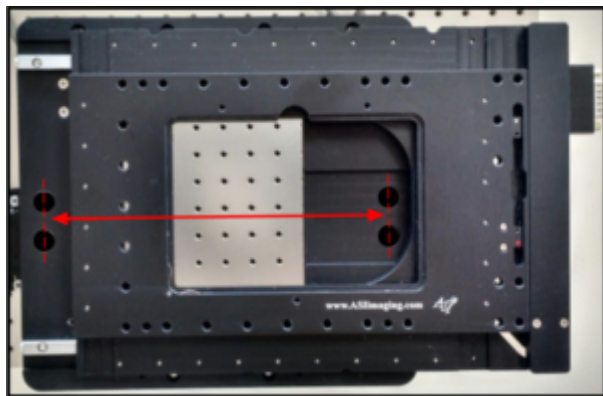

Figure 1: the distance between mounting holes
2. Measure the distance between the X- and X+ mounting holes in the XY stage's bottom plate, as in Figure 1. (Use the joystick or a serial command to move the X-axis to either side to reveal the mounting holes.)